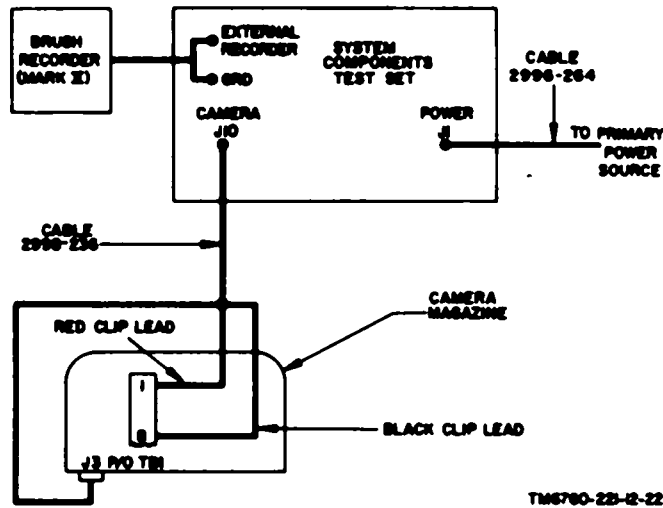

Figure 22. Connection diagram for testing camera magazine
- (4) If a film take up clutch assembly is being set, follow the procedures given in (2) and (3) above to establish a torque of 35 to 45 inch ounces.
- (5) Apply liquid staking to locknuts to secure the clutch torque setting.
a. *Connections* (fig. 22).
- (1) Connect cable 2998-236 to connector J10 on the system components test set and connector J3 on the camera magazine.
- (2) Remove the cover from the camera magazine.
- (3) Connect the black clip lead of cable 2998-236 to terminal 8 of terminal board TB1.
- (4) Connect the red clip lead of cable 2998-236 to terminal 1 of terminal board TB1.
- (5) Connect the Brush recorder, Mark II or equal, to the EXTERNAL RECORDER and GRD connectors in the CAMERA TEST section of the system components test set.
- (2) Set the speed of the Brush recorder (fig. 22) to 125 millimeters (mm) per second.